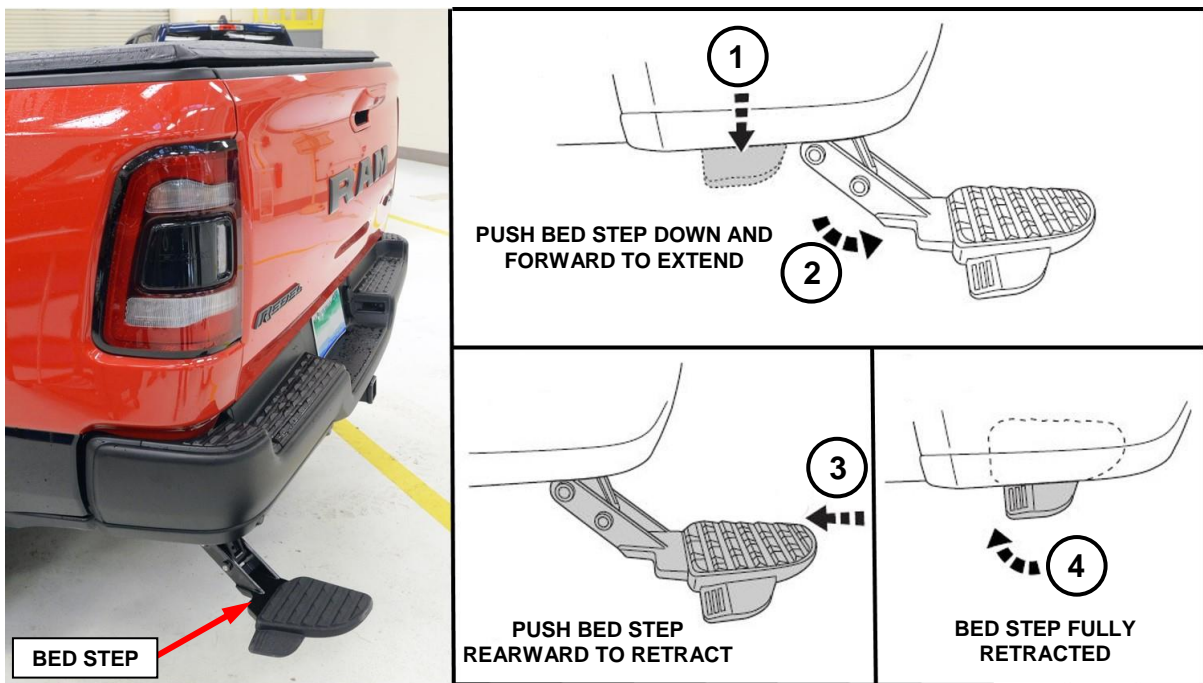

Figure 5 – Check Operation of Bed Step
9. Check operation of the bed step to ensure it functions properly (Figure 5).